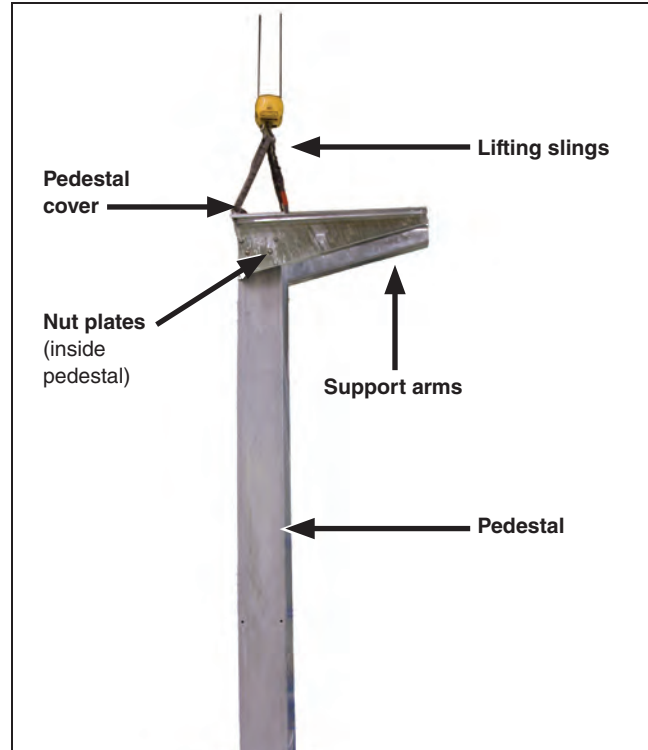

Figure 2. Attach lifting slings to the eyebolts provided and lift into place on the user-furnished pre-installed foundation.
- (a) Before lifting, make sure the grounding pad is positioned properly for the installation and the support arms are positioned in the correct direction. Refer to the accompanying reference drawing (RD) for details. See Figure 2.
STEP 2. Place a pedestal cover on top of each pedestal and align it with the holes on the pedestal. See Figure 2.